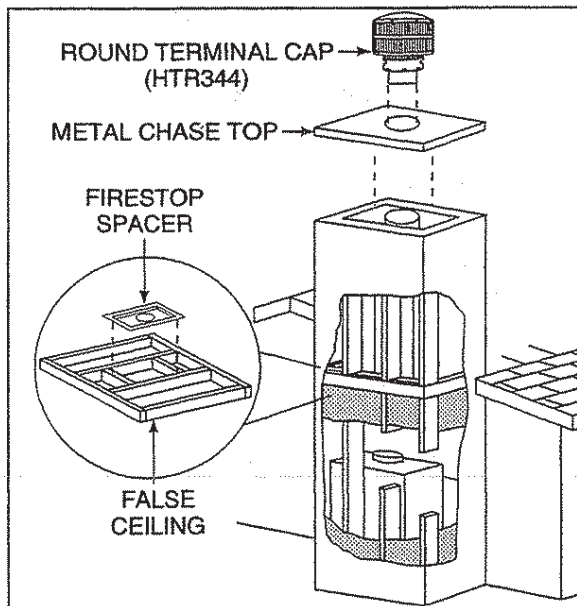

Figure 21
5. In cold climates, the walls of the chase should be insulated to the level of the false ceiling as shown in Figure 21. This will help prevent heat loss from the home around and through the fireplace.